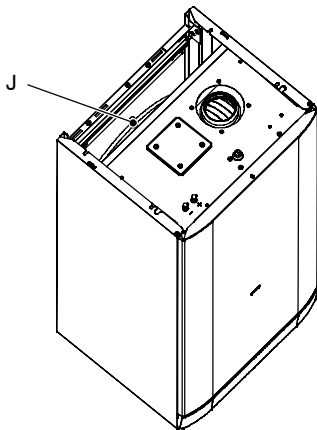

Fig. 56
- 2 Remove the protective cap J (Fig. 56) from the valve on the top of the expansion vessel and connect a suitable air pressure gauge.